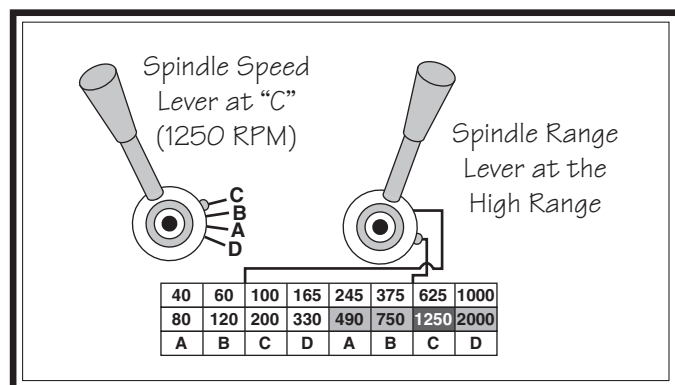

Figure 76. Setting the spindle speed at 1250 RPM.
3. Move the spindle range lever so that the indicator points to the lower line (see **Figure 76**). This will make the last four or higher speeds in the bottom row available.